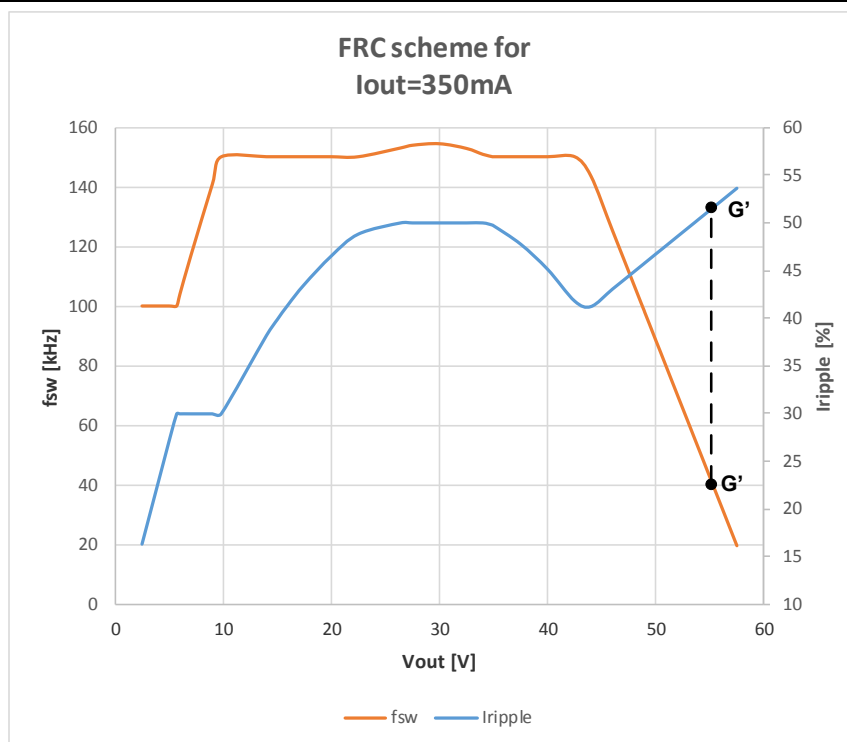

Figure 21. Operating Point determined by T_{off_min} criteria
¹ If the high voltage load is applied at the output (large number of LEDs, the output voltage is near the input voltage), the operating frequency will be low and if it falls below f_{sw_min} , the frequency-ripple controller will start to correct it by decreasing the ripple value, as described above. On the other hand, due to the high output voltage, T_{OFF} is quite short (see equation (11) on page 17). It is very important that the turn-off time must be longer than the predefined T_{OFF_min} time (constant T_{off_min} , see Table 3-19), because during that time all calculations must be performed before starting a new cycle. At that point, the frequency-ripple controller starts to increase the ripple again in order to meet T_{OFF_min} criteria. The final outcome is that the current ripple and switching frequency could stay outside the predefined limits (above I_{ripple_max} and below f_{sw_min} respectively) – point G' in Figure 21. If T_{OFF} falls below the minimum allowed value (low ripple means short T_{OFF} time for constant output voltage), the regulator cannot maintain the average current any longer, therefore influencing accuracy. If parameters are configured properly, any of above mentioned actions lead to stable operating conditions for the given current/load situation. However, there is drift in the operating frequency produced by the input voltage ripple that has to be taken into account when deciding on parameter values. The frequency ripple controller will always try to put the operating point into the operating area, but its final position will depend on the other criteria that affect its position.